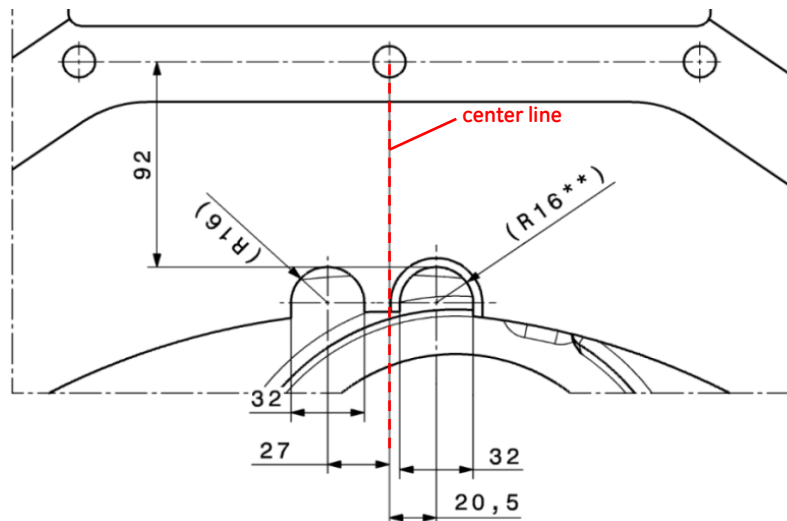

fig. 44: drawing section - recesses
- Check the position of the recesses according to the drawing section in fig. 44.